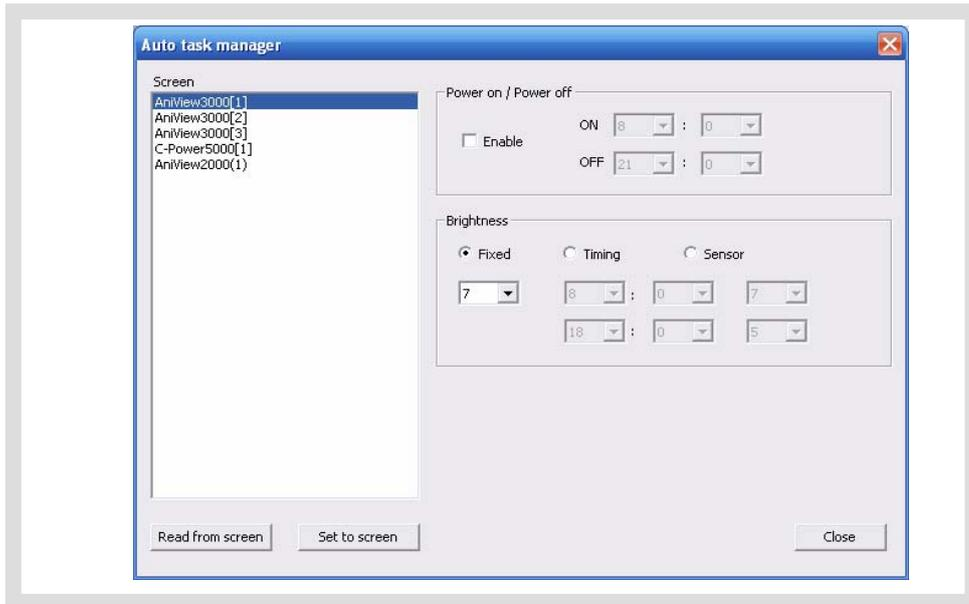

Figure35 Auto task manager
- 1) Click “Setting” – “Auto task” in menu. The dialog box of “Auto ask manager” pops up, as shown in Figure35.